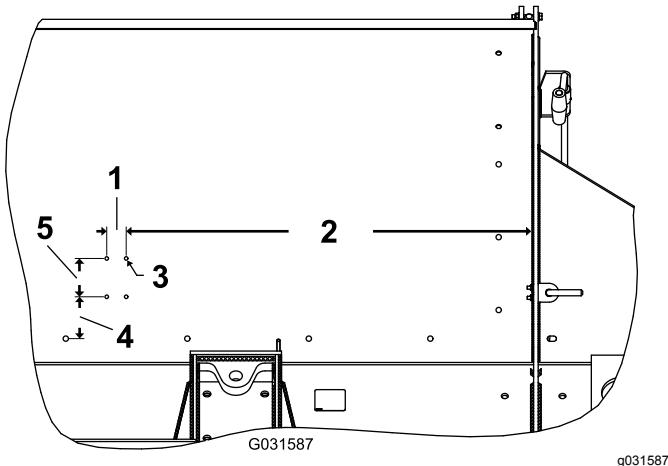

Figure 12
- Drill 4 mounting holes (7 mm or 9/32 inch) on the side of the hopper. Refer to Figure 12 for the drilling dimensions.